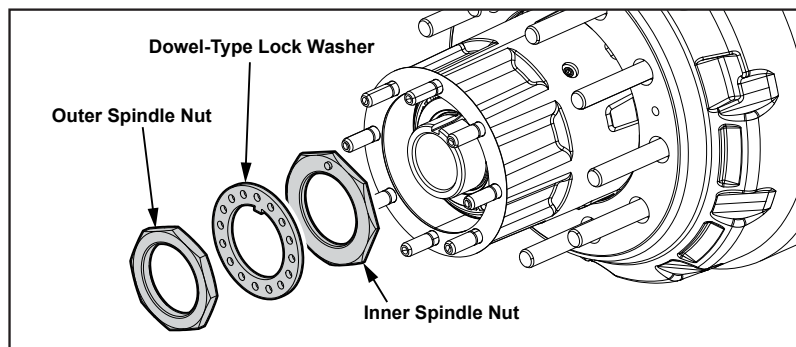

Figure 4
1. Remove the outer spindle nut and dowel-type lock washer and set aside for reinstallation (see Figure 4).